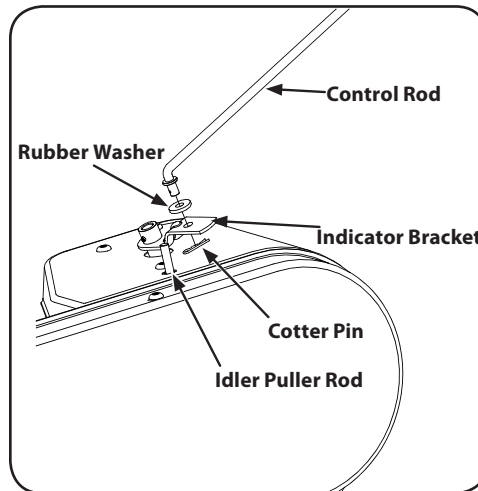

Figure 5-1
3. Remove the cotter pin and spring washer from the idler pulley rod. See Figure 5-1.